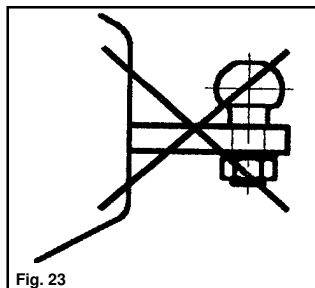

Fig. 23
- 3) A bolted-in type ball coupling (Fig. 23) is only permissible if the thread is locked or welded.